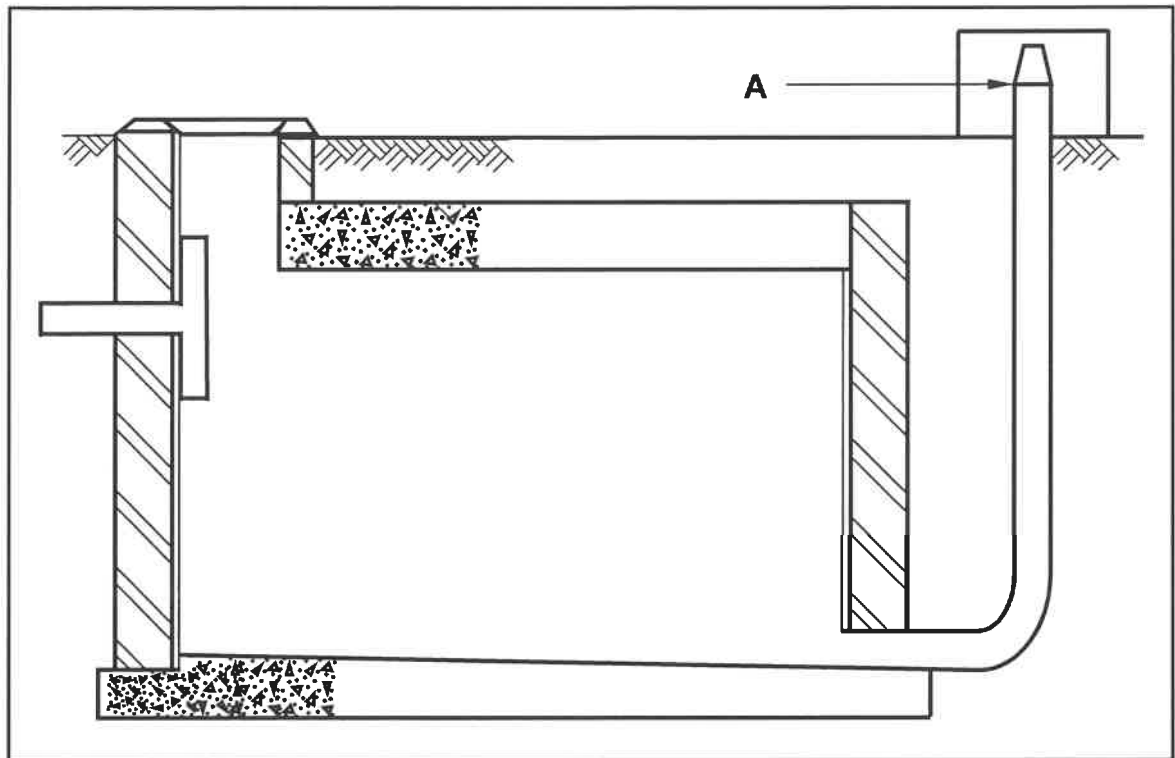

FIGURE 6.5
6.5 FIGURE 6.5 below shows a diagram of a sewage disposal system.